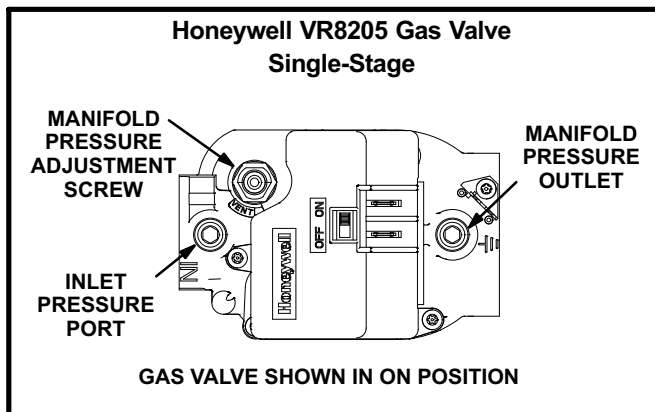
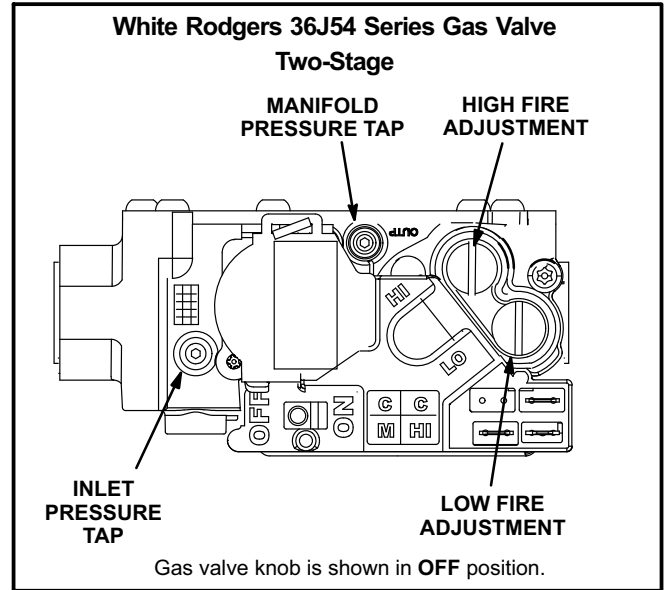

FIGURE 15
FIGURE 16
### Gas Valve Operation (figure 15 and 16)
- 5- *Honeywell VR8205 Gas Valve* - Switch gas valve lever to **OFF**. See figure 15.
*White Rodgers 36J54 Gas Valve* - Turn knob on gas valve dockwise  to **OFF**. Do not force. See figure 16.
- 6- Wait five (5) minutes to clear out any gas. If you then smell gas, **STOP!** Immediately call your gas supplier from a neighbor's phone. Follow the gas supplier's instructions. If you do not smell gas, go to the next step.
- 7- *Honeywell VR8205 Gas Valve* - Switch gas valve lever to **ON**. See figure 15.
*White Rodgers 36J54 Gas Valve* - Turn knob on gas valve counterclockwise  to **ON**. Do not force. See figure 16.